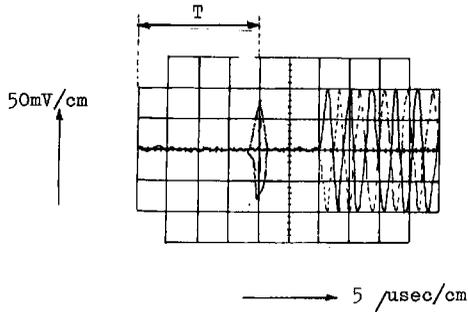

Fig 7-22
17) When steps 14 and 16 have a different value, take the average deviation, in such a way that $T = 20, 0 \mu \text{ sec} \pm 3 \mu \text{ sec}$, see fig. 7-22.